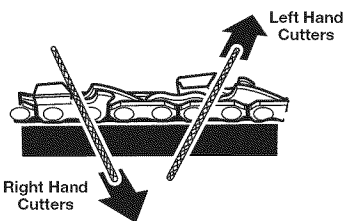

Fig. 43
- Put a few firm strokes on every tooth. File all left hand cutters in one direction (Fig. 43). Then move to the other side and file the right hand cutters in the opposite direction (Fig. 43). Occasionally remove filings from the file with a wire brush.